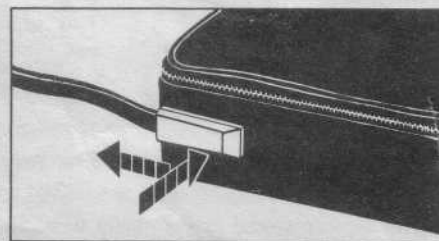

FIG.6
2. Use force to press in and slide toward small end of hole. (Fig 6).